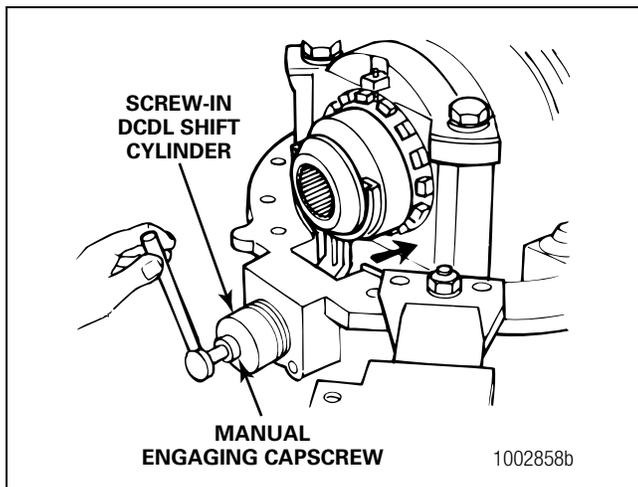

Figure 6.23
- Engage the splines of the collar with the splines of the differential case. Insert the manual engaging capscrew through the top of the shift cylinder to move the shift collar toward the differential case. Rotate the collar as necessary to align the splines. Figure 6.23.